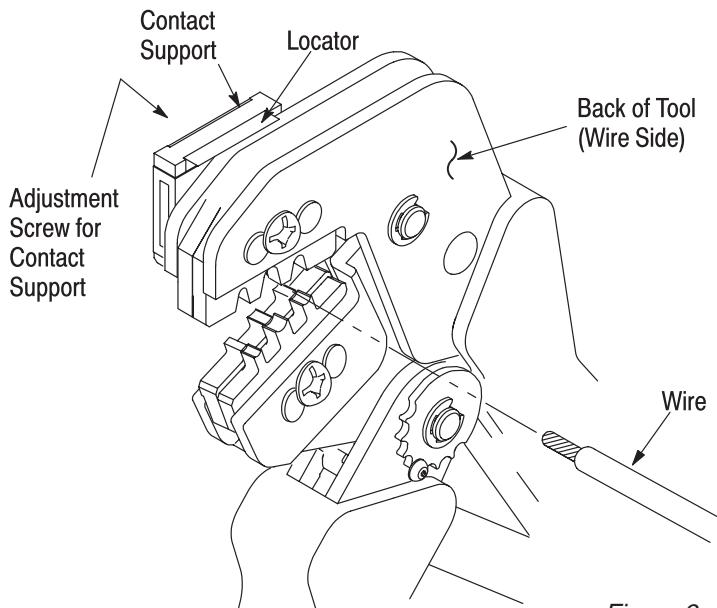

Figure 3
### 4. CONTACT SUPPORT ADJUSTMENT (Figure 3)
Refer to the table in Figure 1 and select wire of the specified size and insulation diameter. Strip the wire to the length indicated in Figure 1, taking care not to nick or cut wire strands. Select an applicable contact and identify the appropriate crimp section according to the wire size markings on the tool. Refer to Figure 3 and proceed as follows:
3. Position the contact so that the mating end of the contact is on the locator side of the tool, and so that the open "U" of the wire and insulation barrels must face the top of the tool. Place the contact up into the nest so that the movable locator drops into the slot in the contact. Refer to Figure 3. Butt the front end of the wire barrel against the movable locator.
5. Insert stripped wire into contact insulation and wire barrels until it is butted against the wire stop, as shown in Figure 3.
*The crimped contact may stick in the crimping area, but the contact can be easily removed by pushing downward on the top of the locator (see Figure 3).*